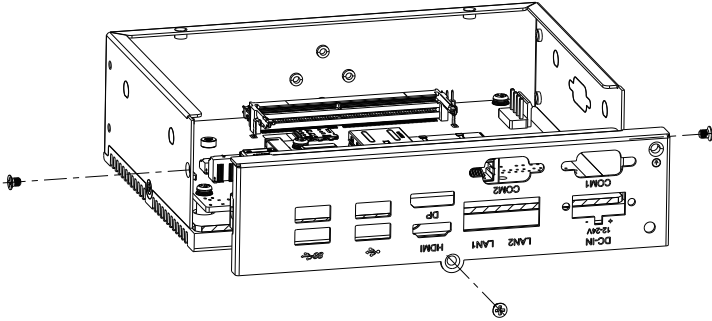

Figure 3.1-2
2. Remove 3 screws on panel, disassembly schematic diagram as shown in Figure 3.1-2.